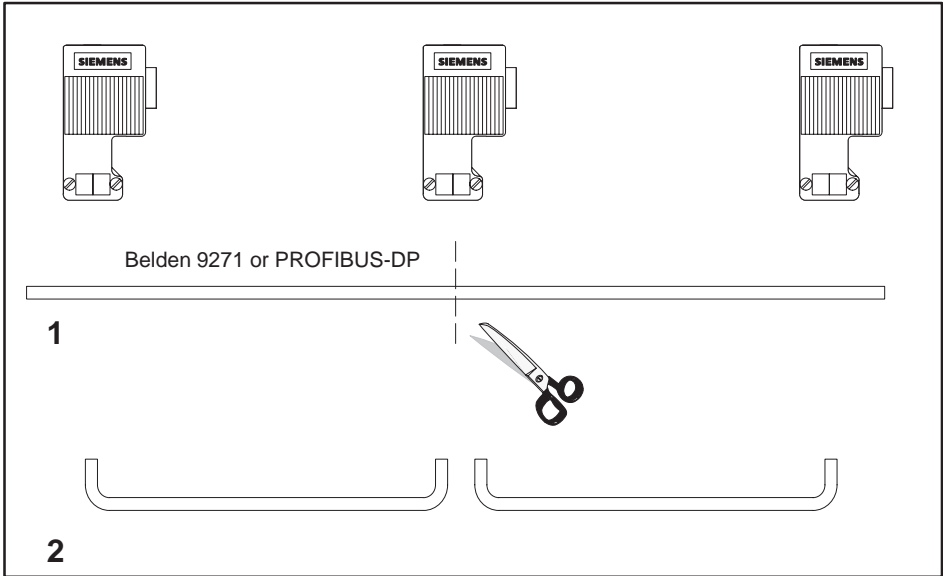
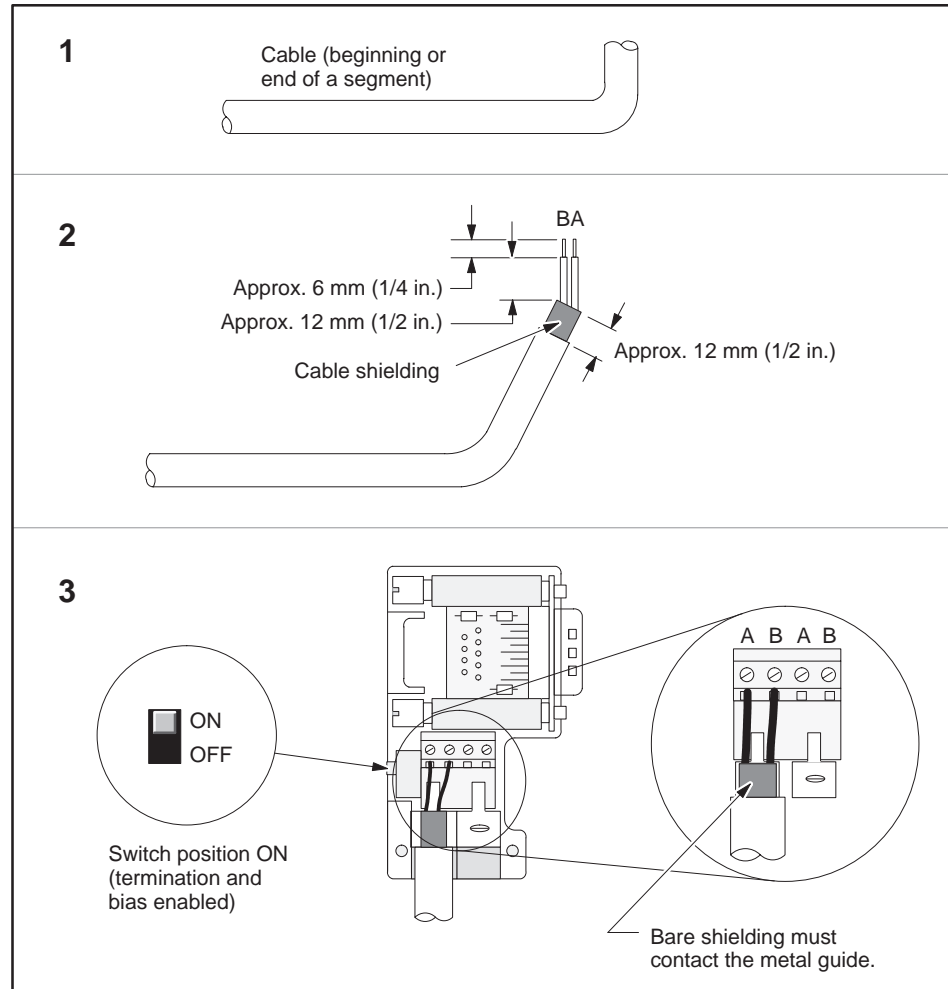
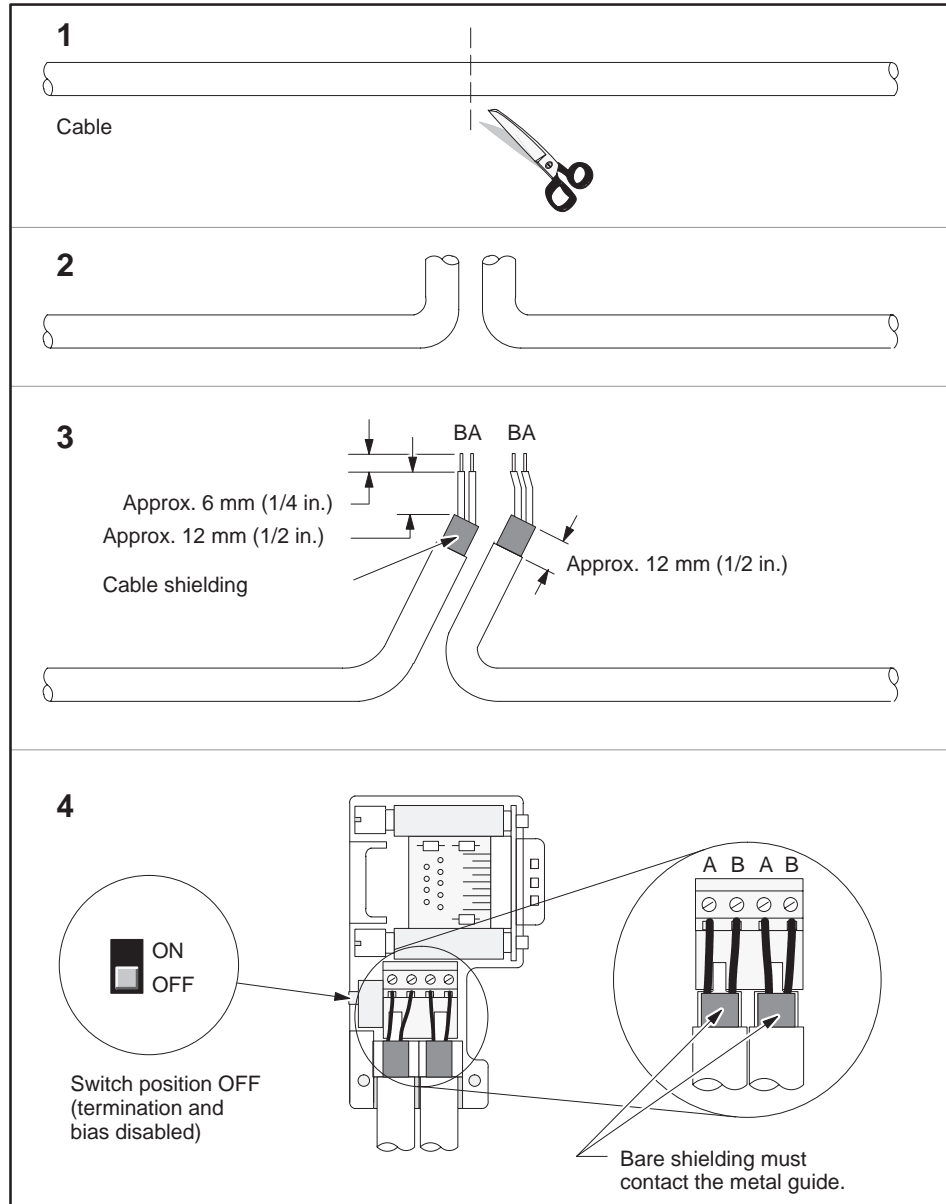

Figure 2-8 Routing and Cutting the Cable
Figure 2-9 Mounting the Cable on the Connector (Beginning/End of Segment)
Figure 2-10 Cutting the Cable, Stripping the Insulation, and Connecting the Cable
When you use the Field Interface Module as the Port 2 interface, the special connector can only be used on the Field Interface Module. If the Field Interface Module is located at an extreme end of the cable, the switches in the special connector for the Field Interface Module should be set to the On position (note the position of switches 1 and 2 in Figure 2-9, on page 2-14). The slave device, at the other end of the cable, must be terminated and biased.
In case the Field Interface Module is not at an extreme end of the cable, the switches in the special connector must be turned off (Figure 2-10, on page 2-15). Some slave devices provide termination as a selectable feature (generally by placing a jumper in a particular position).
3. Wire the cable as shown in Figure 2-8, Figure 2-9, and Figure 2-10.
Figure 2-9 shows how to mount the cable to a Port 2 connector at the beginning or end of a segment.
Figure 2-10 shows how to loop the cable through the Port 2 connector.